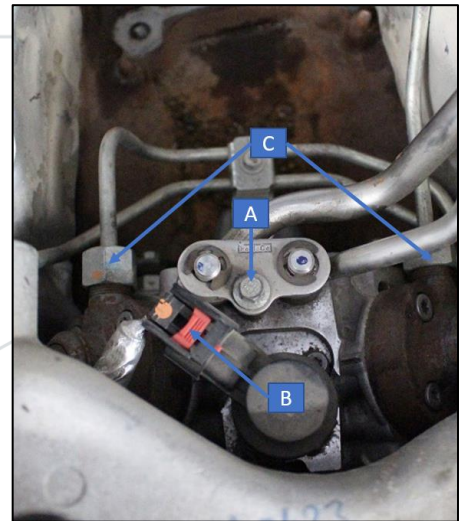

Figure 12: Fuel Lines to CP4 Pump
30. Referring to Figure 12, unplug the fuel control actuator (FCA/VCV) electrical connector (Labeled as B in Figure 12) on top of the CP4 pump.